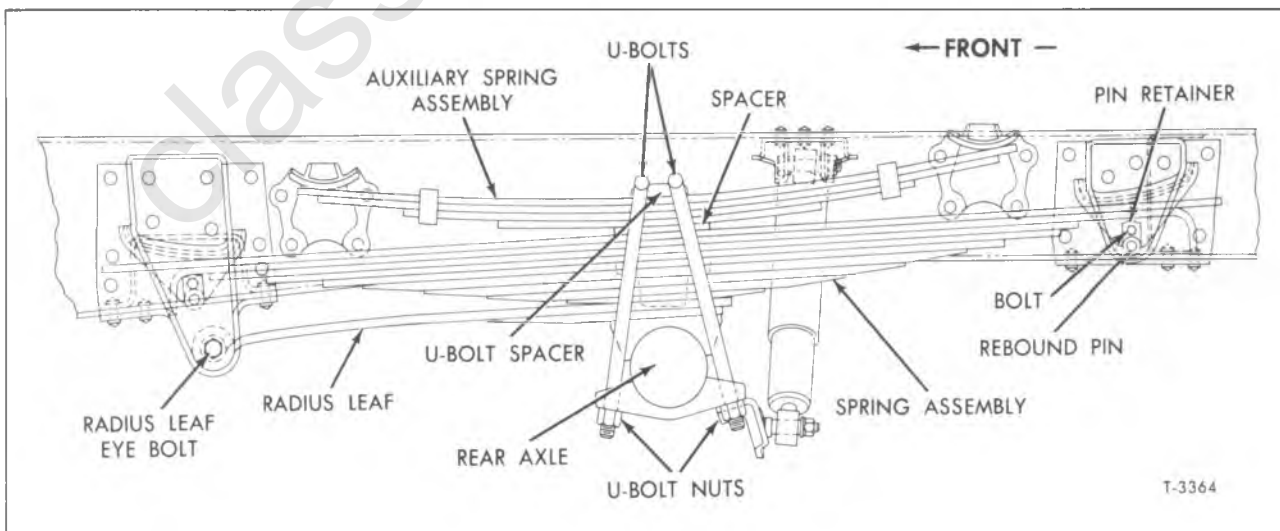

Figure 1—Rear Springs Installed (Series 4000 and PS4500) (Typical)
Progressive type, two-stage rear springs, as used on all 4000 and PS4500 Series (fig. 1), have a straight-ended main leaf which rests against the cam surface of the front and rear hangers, thereby allowing the springs a full fore and aft float to effect spring length changes. The second or third leaf has hooked ends which contact rebound pins in the spring hangers to prevent excessive fore and aft travel in event of radius leaf rod failure.
#### REAR SPRING REMOVAL (Figs. 1, 2, and 3)
4. On 4000 and PS4500 Series (fig. 1), at front and rear hanger, remove rebound pin retainer bolt, then remove retainer. Install suitable puller